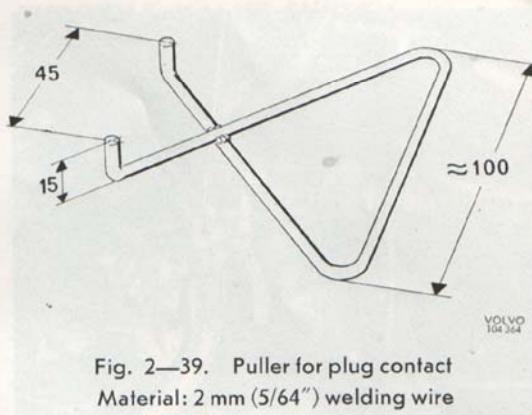

Fig. 2-39. Puller for plug contact
5. Make a puller as shown in Fig. 2-39. Hook in the puller, see Fig. 2-40, and pull out the plug contact carefully.